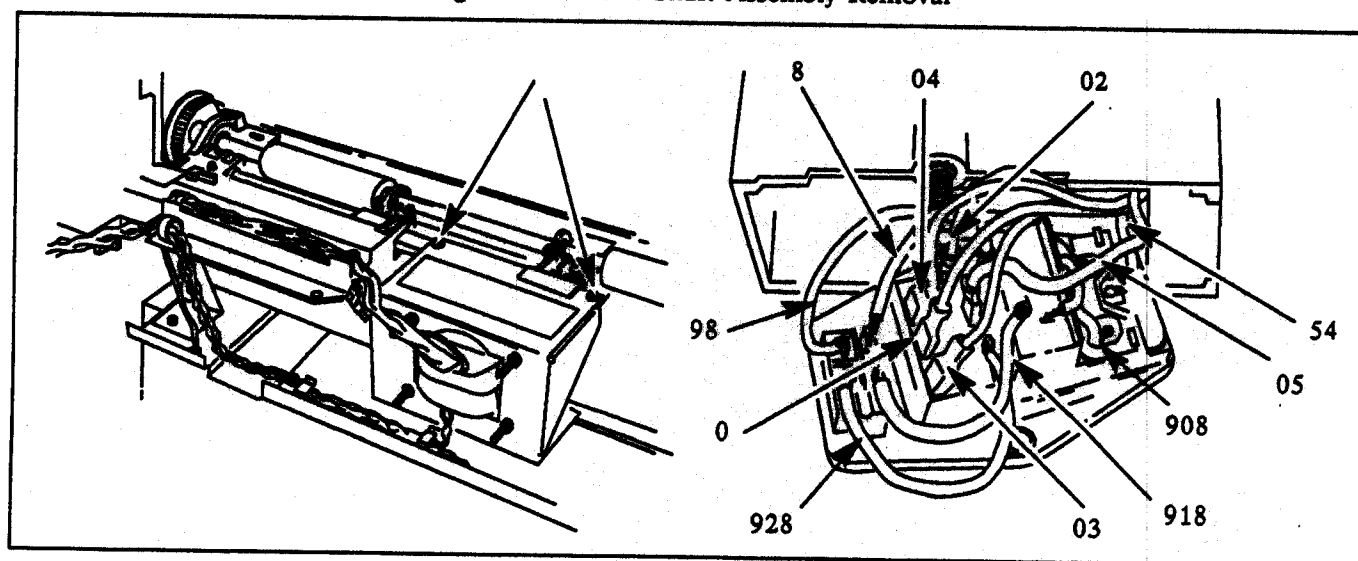

Figure 6-31. Power Transformer Removal
- g. Remove the two Torx Screws securing the power transformer to the datum bar. See Figure 6-31.
- h. Note the orientation of the primary lead hook up to the power module. Disconnect the transformer primary leads from the ac power module. See Figure 6-31.